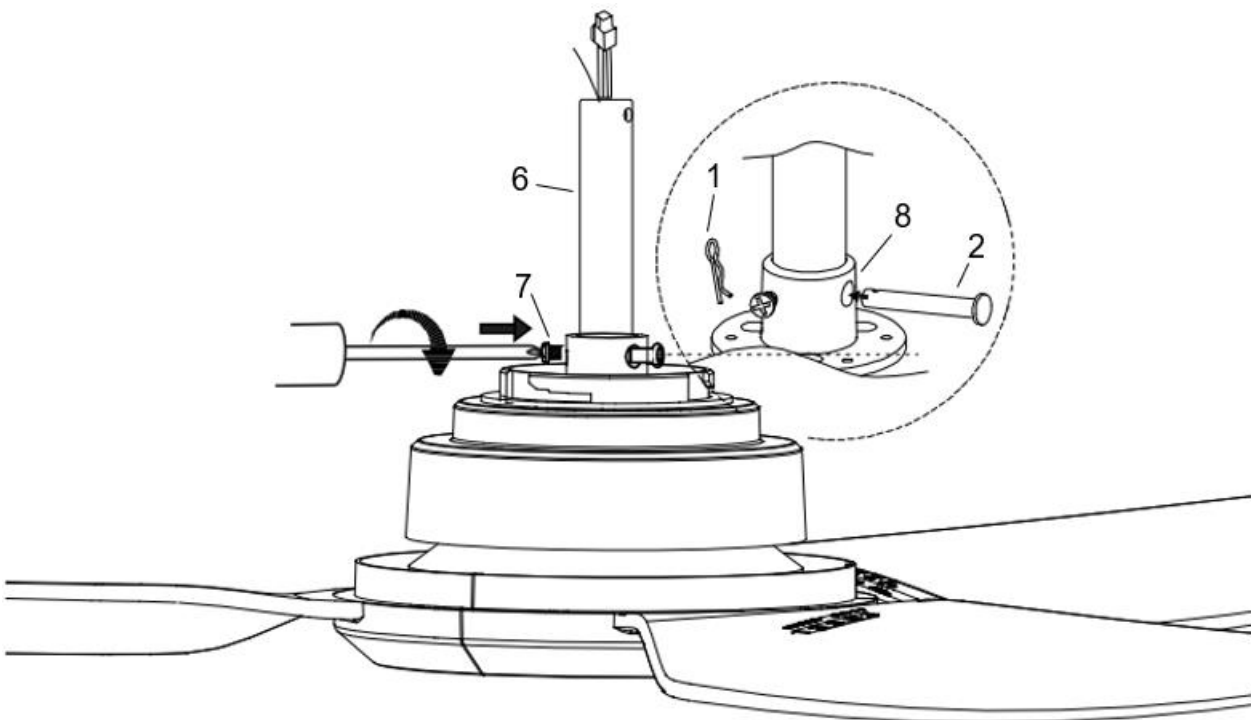

Fig. 5.3
3. Carefully feed the fan wires up through the down rod (6). (fig. 5.3)
4. Assemble the down rod (6) into the down rod coupling housing (8), by inserting and line up the down rod coupling housing holes with the down rod holes and insert the hitch pin (2) and secure with the lock clip (1). (Fig. 5.3)
5. Secure the down rod (6) by tightening the set screws (7). (Fig. 5.3)